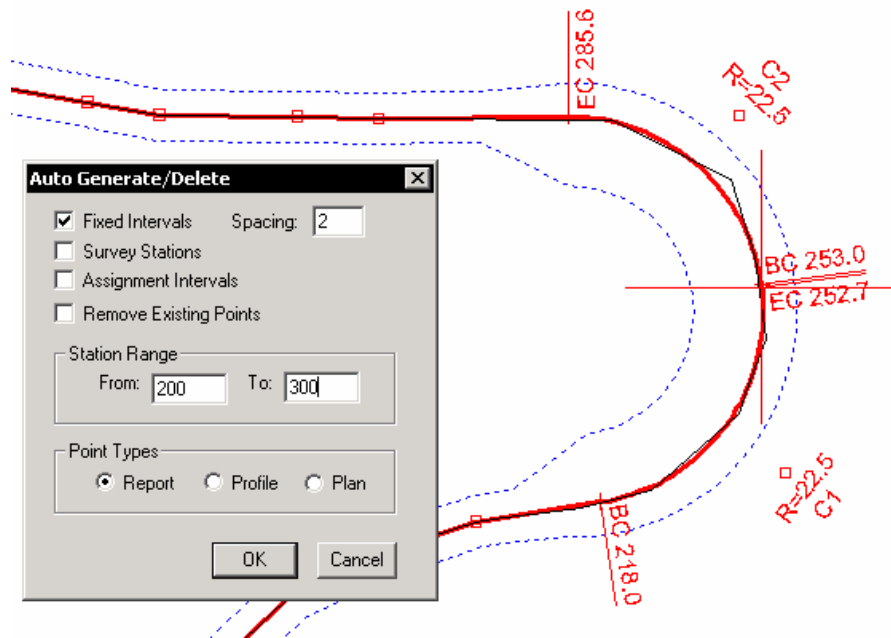

Figure 5.23: Edit | Auto Generate Dialog and the Smoothing Effect of Adding REPORT Points
17. Edit|Auto Generate, and type in the information shown in the dialog below. Press OK. The road edges should look more like the Figure 5.23 below. Compare figures and notice that the road edges are smoother after this step. There is a tradeoff: too many cross sections can slow calculations.